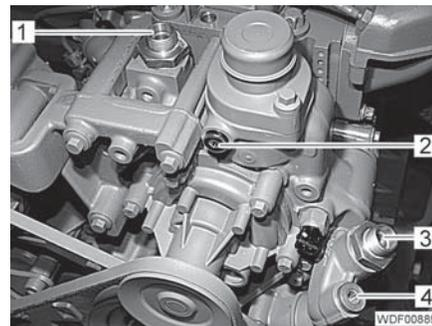

Fig. 28 Heating connections
- Screw in and tighten the 2 screw attachments (Fig. 28,1 and 3).
- Screw in and tighten the 2 plugs (Fig. 28,2 and 4).